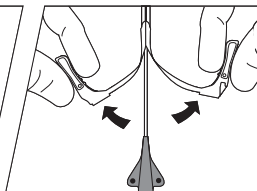

Figure 4
27. Withdraw peel-away sheath over catheter until sheath hub and connected portion of sheath is free from venipuncture site. Grasp tabs of peel-away sheath and pull away from the catheter (refer to Figure 4), while withdrawing from vessel until sheath splits down its entire length.